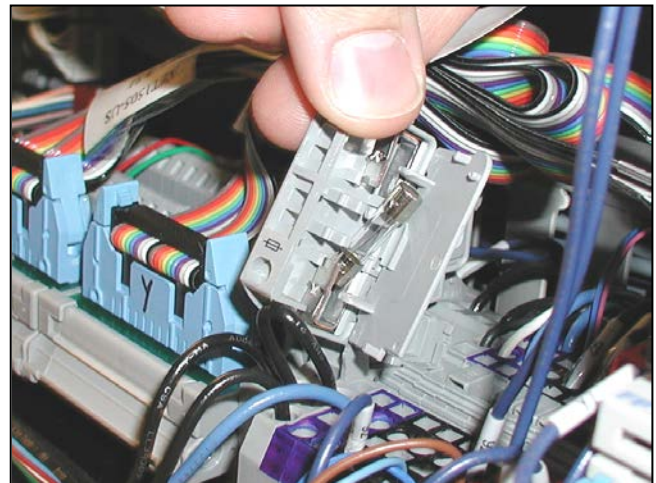

Figure 3-17. Fuse Access Door
5. Open Fuse Access Door and remove fuse (Figure 3-17)